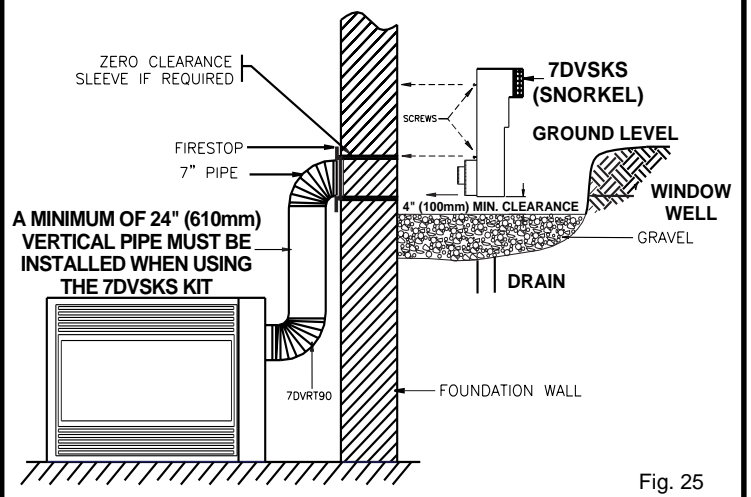

Fig. 25
2. Remove soil to a depth of approximately 16" (406mm) below base of snorkel. Install window well (not supplied). Refill hole with 12" (305mm) of coarse gravel leaving a clearance of approximately 4" (100mm) below snorkel. (Fig. 25)
7. Level the soil so as to maintain a 4" (100mm) clearance below snorkel (Fig. 25).